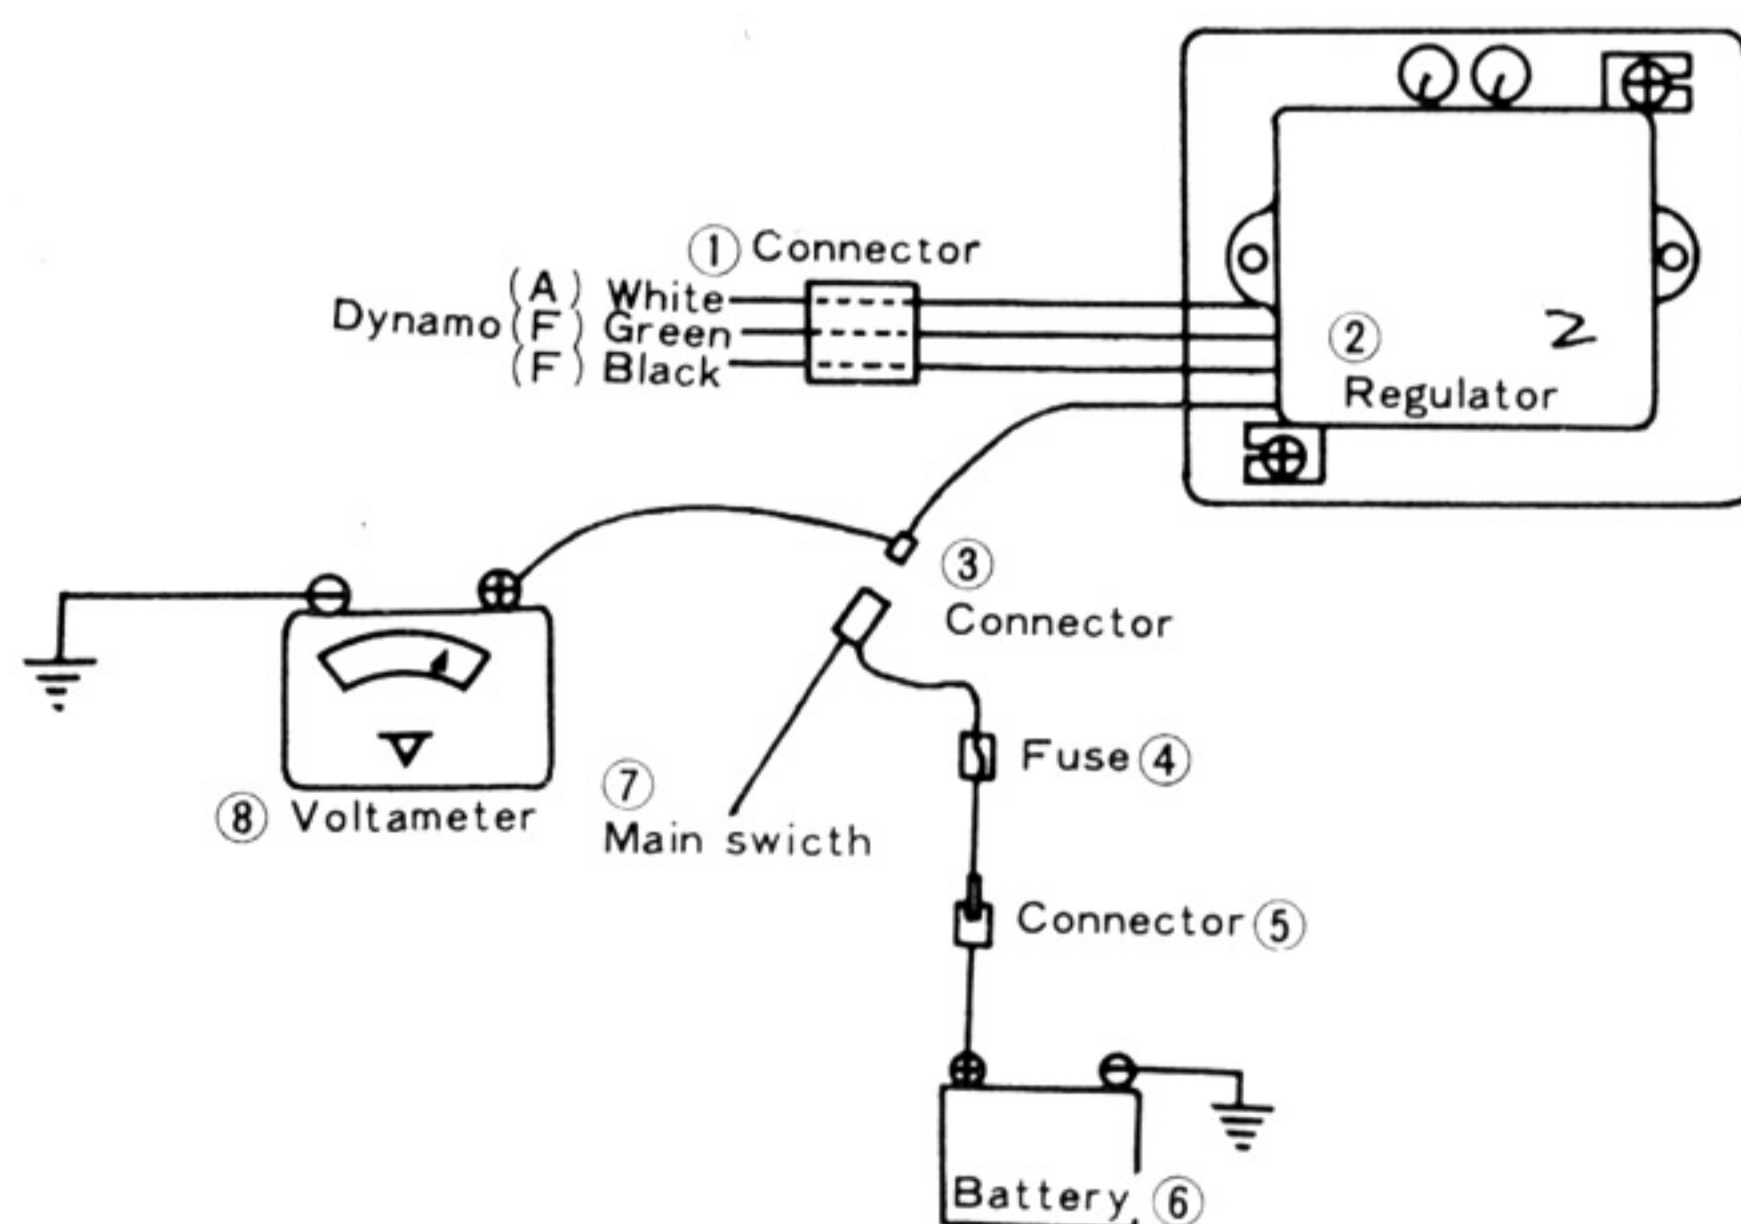

Fig. 5-5-1
- Start the engine and keep it running at 2,500 rpm. Your regulator is correct if the tester reads 15.60 – 16.3 V. (Fig. 5-5-1)